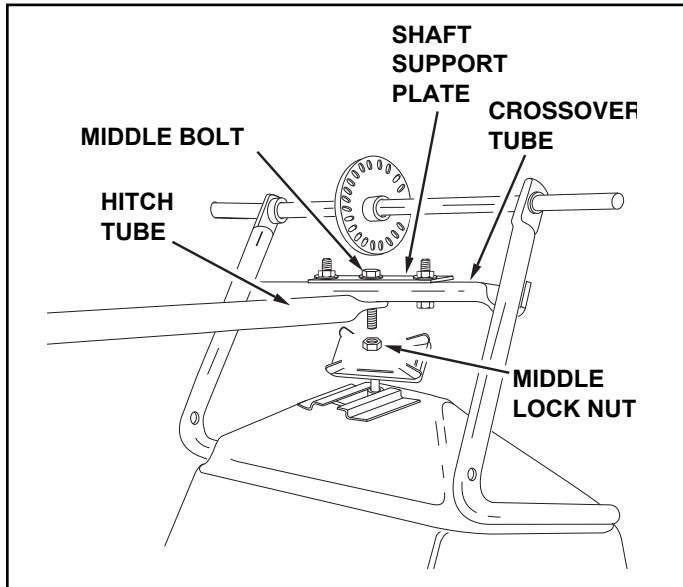

FIGURE 1
- Turn the spreader upside down as shown in figure 1.
- Remove the lock nut from the middle bolt in the crossover tube and shaft support plate. Leave the bolt in place. See figure 1.
- Assemble the hitch tube onto the middle bolt and secure it with the same lock nut you removed. **DO NOT TIGHTEN YET.** See figure 1.